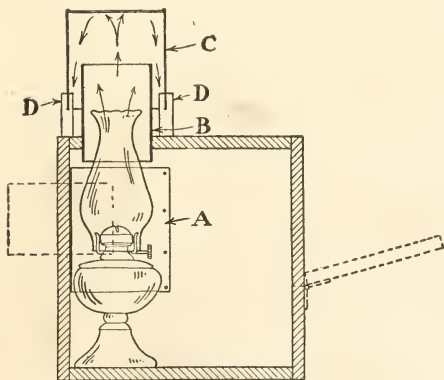

FIG. 342. — Cross-section of Reflectoscope.
**If Oil Lamps are Used**, their tops will project through the ventilation holes, as shown in Fig. 342. These openings must be inclosed with